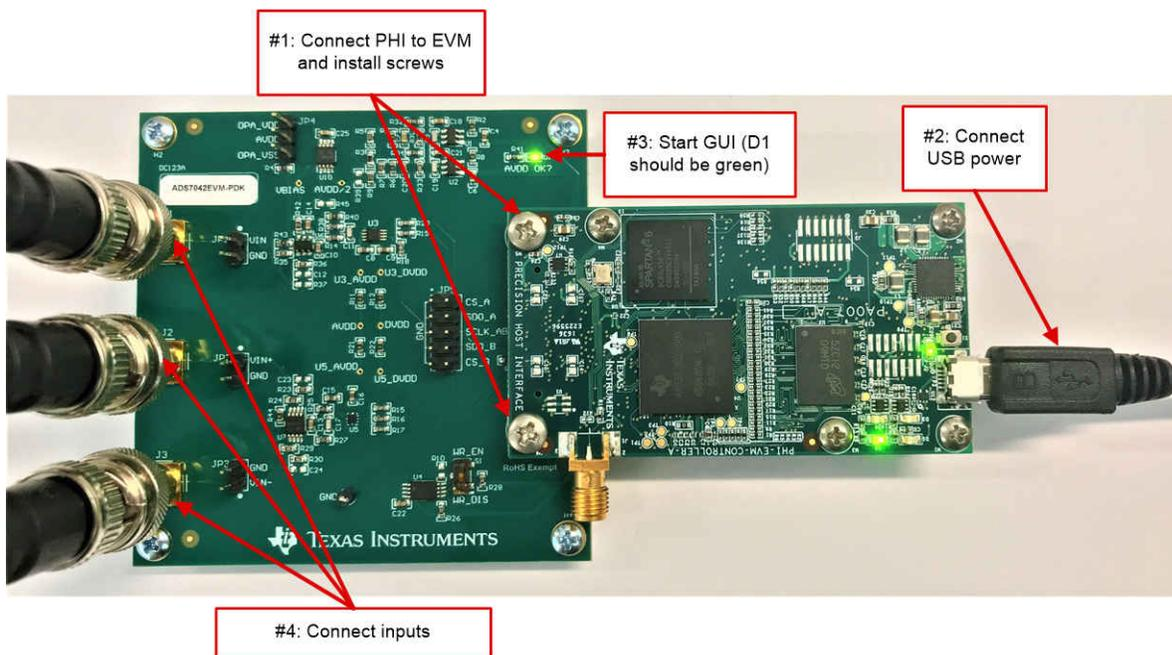

Figure 4-1. Hardware Connections on the ADS704X-5XEVM
After installing the software, connect the EVM as shown in Figure 4-1:
- b. LEDs D1 and D2 on the PHI start blinking to indicate that the PHI is booted up and communicating with the PC; Figure 4-1 shows the resulting LED indicators
3. Start the software GUI. The LEDs blink slowly as the FPGA firmware is loaded on the PHI. This loading takes a few seconds and then the AVDD and DVDD power supplies turn on. LED D1 on the ADS704X-5XEVM (as shown in Figure 4-1) illuminates green to indicate that AVDD is being supplied to the EVM